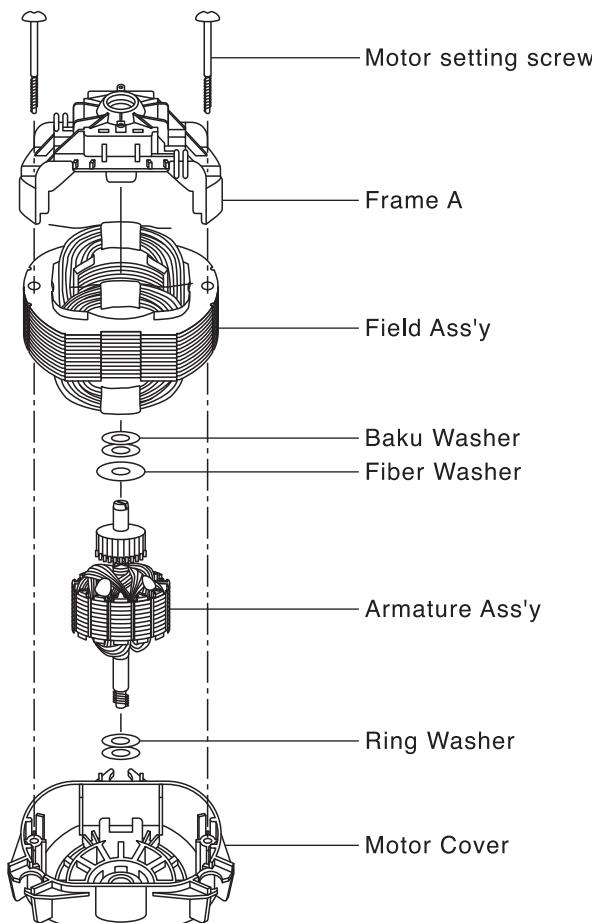

Fig. 6
5.6. Reassembly of Motor Cover, Frame A, Armature Ass'y and Field Ass'y -Fig.6, 7